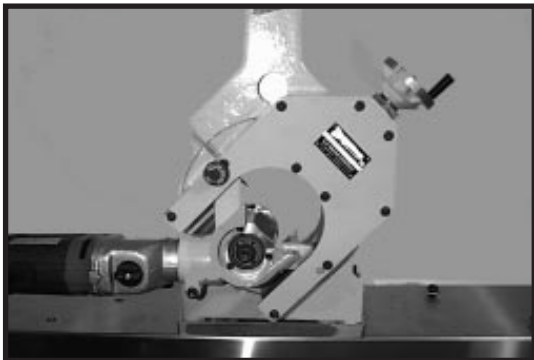

Figure 1
1. (inboard only) Rotate cutter gear box 45° clockwise (Figure 1). Rotate cutter depth knob clockwise until cutter gear box is at upper most position. Rotate cutter gear box counter clockwise 45° to its starting point. Open vise, rotate vise handle counter clockwise.